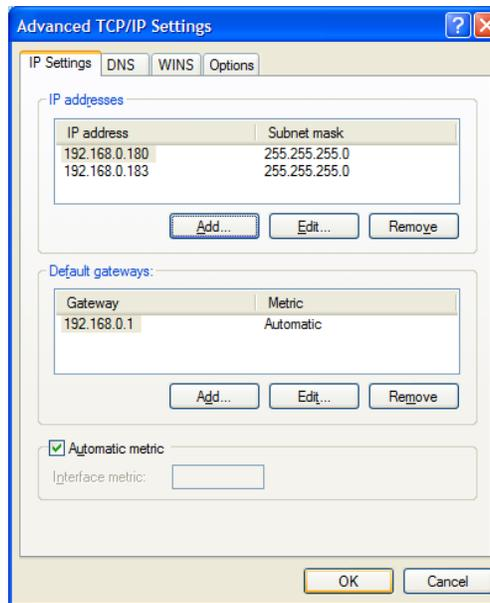

Figure 2-48: Advanced TCP/IP Settings Window
4. Click the **Advanced** button. In the *Advanced TCP/IP Settings* window, click the **Add** button, as shown in Figure 2-48.